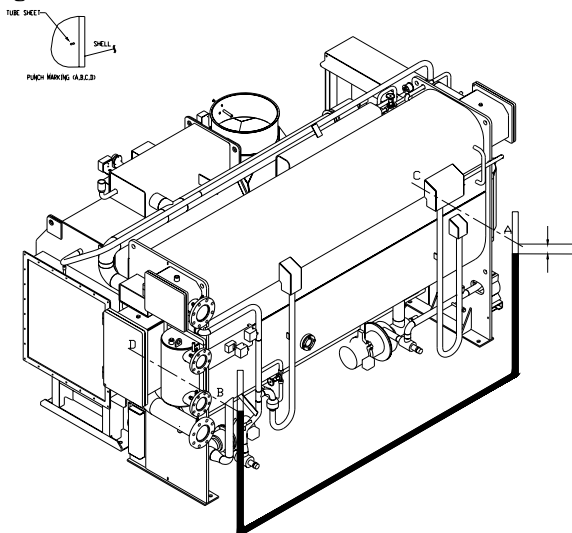

Fig.1-5 Level Check
3. Use water gage and leveling reference of points stamped on tube sheet to level the chiller as shown in Fig. 1-5.